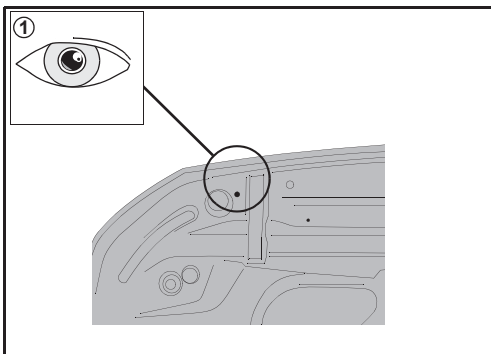

Figure 2.
2. Note the two outer/center holes in the underside of hood as shown in Fig 2.